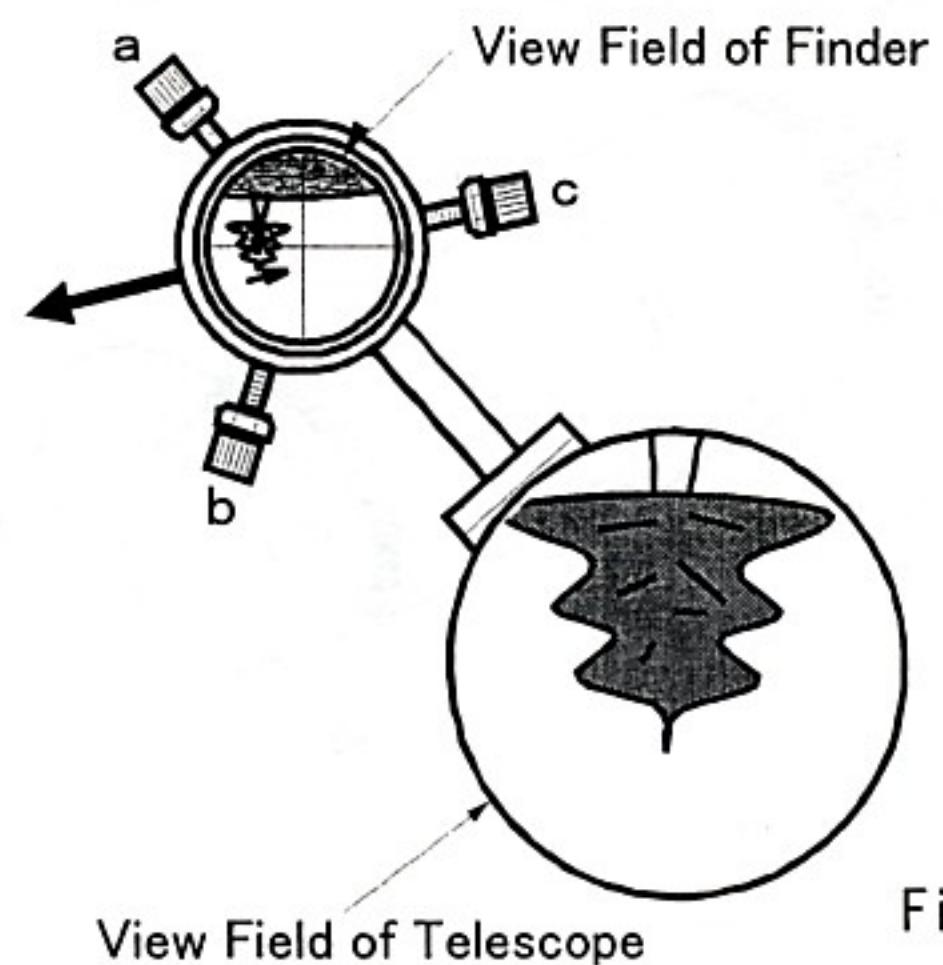

Fig. 12
2. In order to move the crosshair in the direction of the arrow, first loosen screw (a) and tighten (push) the finder with screw (c). This procedure will move the crosshair in the desired direction. The top of the finder will move in the opposite direction and the object will move in the direction of the smaller arrow. Refer to Fig.12.